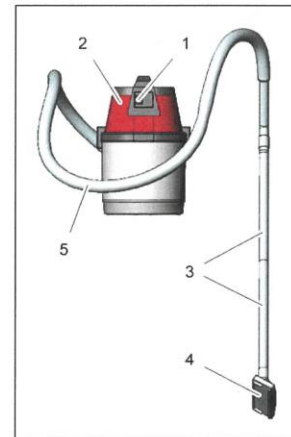

Fig. 7 Vacuum cleaner operation
Use the main switch (Fig. 7/1) to turn the vacuum cleaner on and off.
1. Open the locks of the suction unit (Fig. 7/2) and take off suction unit.
Main switch (Fig. 7/1)
Suction unit (Fig. 7/2)
Hand tubes (Fig. 7/3)
Carpet and floor brush (Fig. 7/4)
Suction hose (Fig. 7/5)